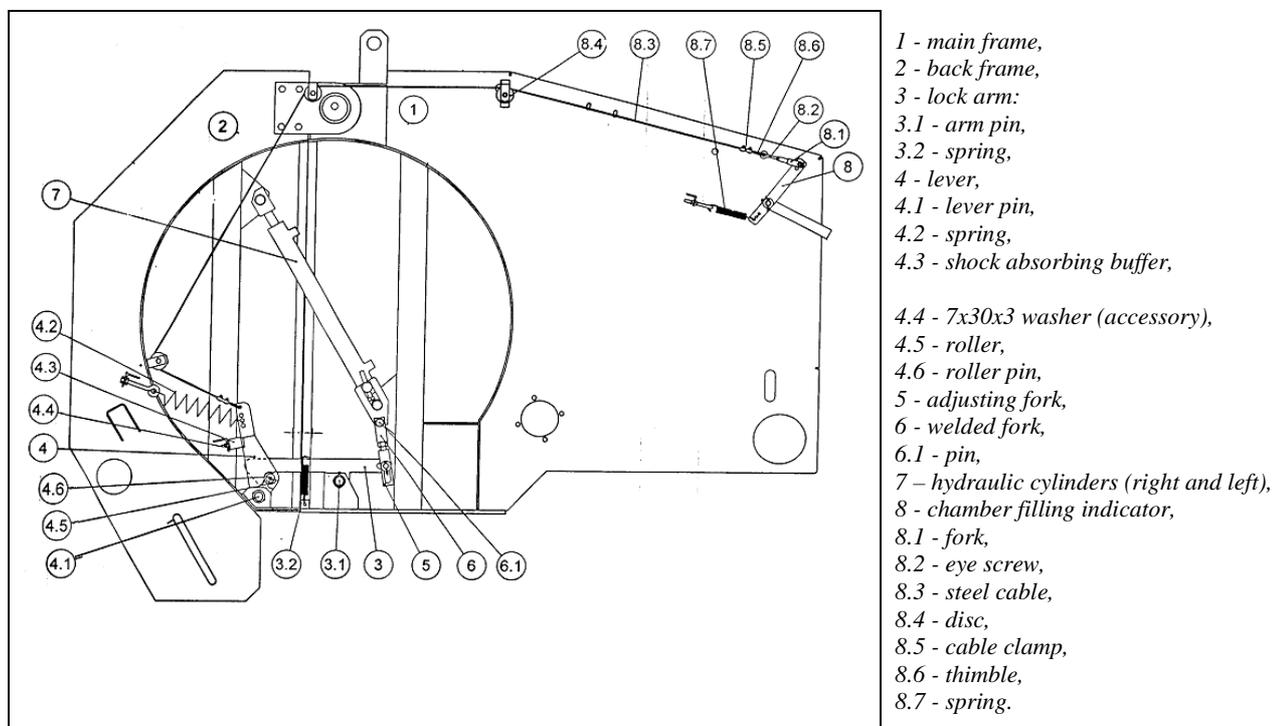

FIG. 38. ROUND BALER WITH MECHANICALLY LOCKED BACK FRAME, VIEW FROM THE RIGHTS
Round Balers can be equipped with a mechanical lock of the back frame (Fig. 38) instead of a hydraulic lock. The back frame (2) in the version with mechanical lock is secured in the working (lowered) position symmetrically from the right and the left side by the arms of the lock (3) mounted pivotally on pins (3.1) on the main frame (1). Pivotal levers (4) tightened with springs (4.2) are installed on the body of the back frame (2). Lever bodies (4) contain rollers (4.5) mounted on pins (4.6).